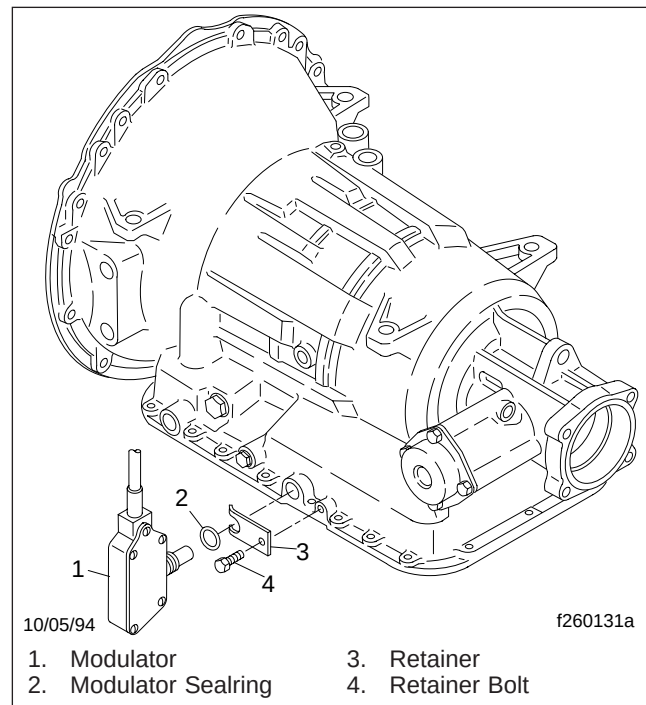

Fig. 6, Allison AT Series Transmission Modulator
4. Remove the modulator retainer bolt and retainer from the side of the transmission case. See Fig. 6. Remove the modulator. Remove the sealing from the modulator and discard the sealing.